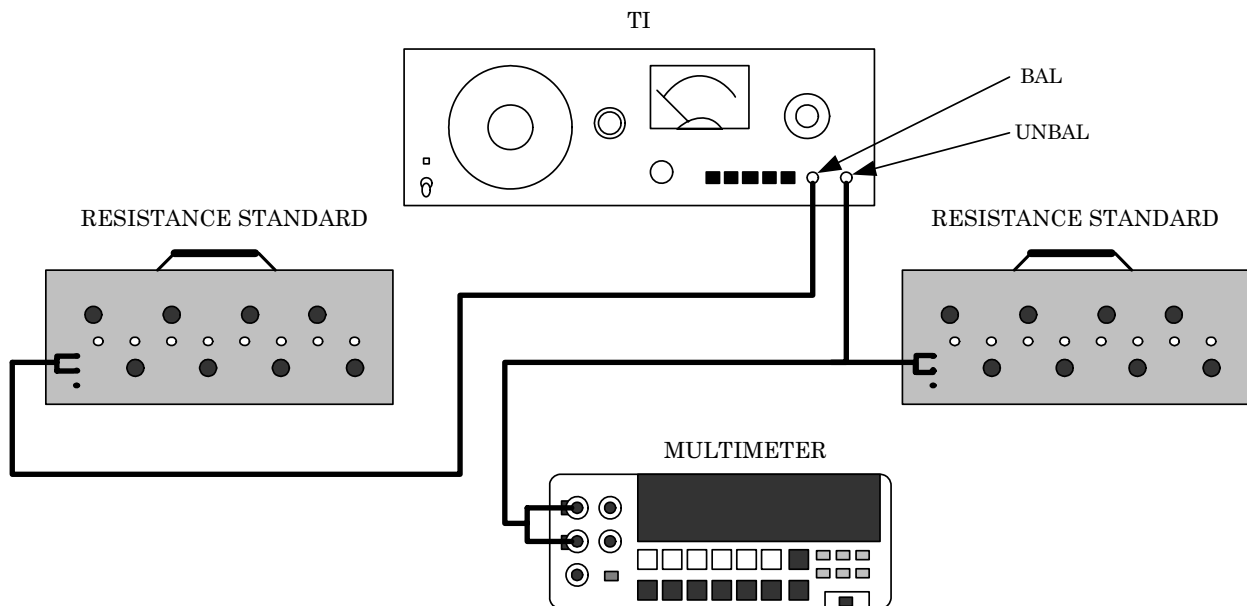

Figure 3. Output impedance - equipment setup.
- (1) Connect equipment as shown in figure 3.